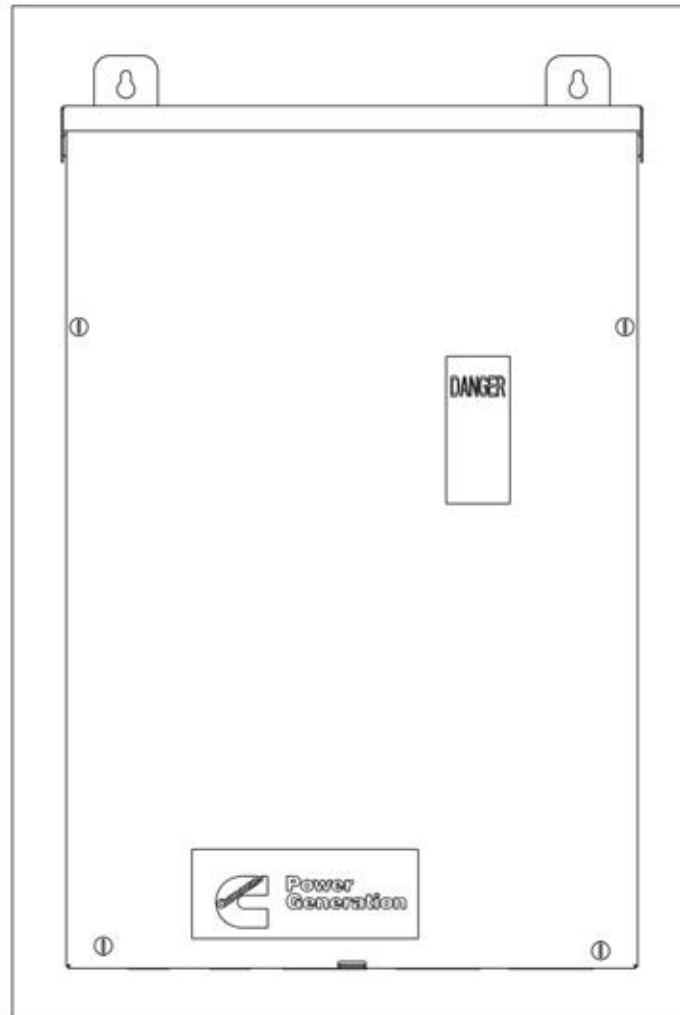

FIGURE 32. RA SERIES 100A/200A NON-SERVICE ENTRANCE TRANSFER SWITCH MODEL
- Figure 32. RA Series 100A/200A Non-Service Entrance Transfer Switch Model 64